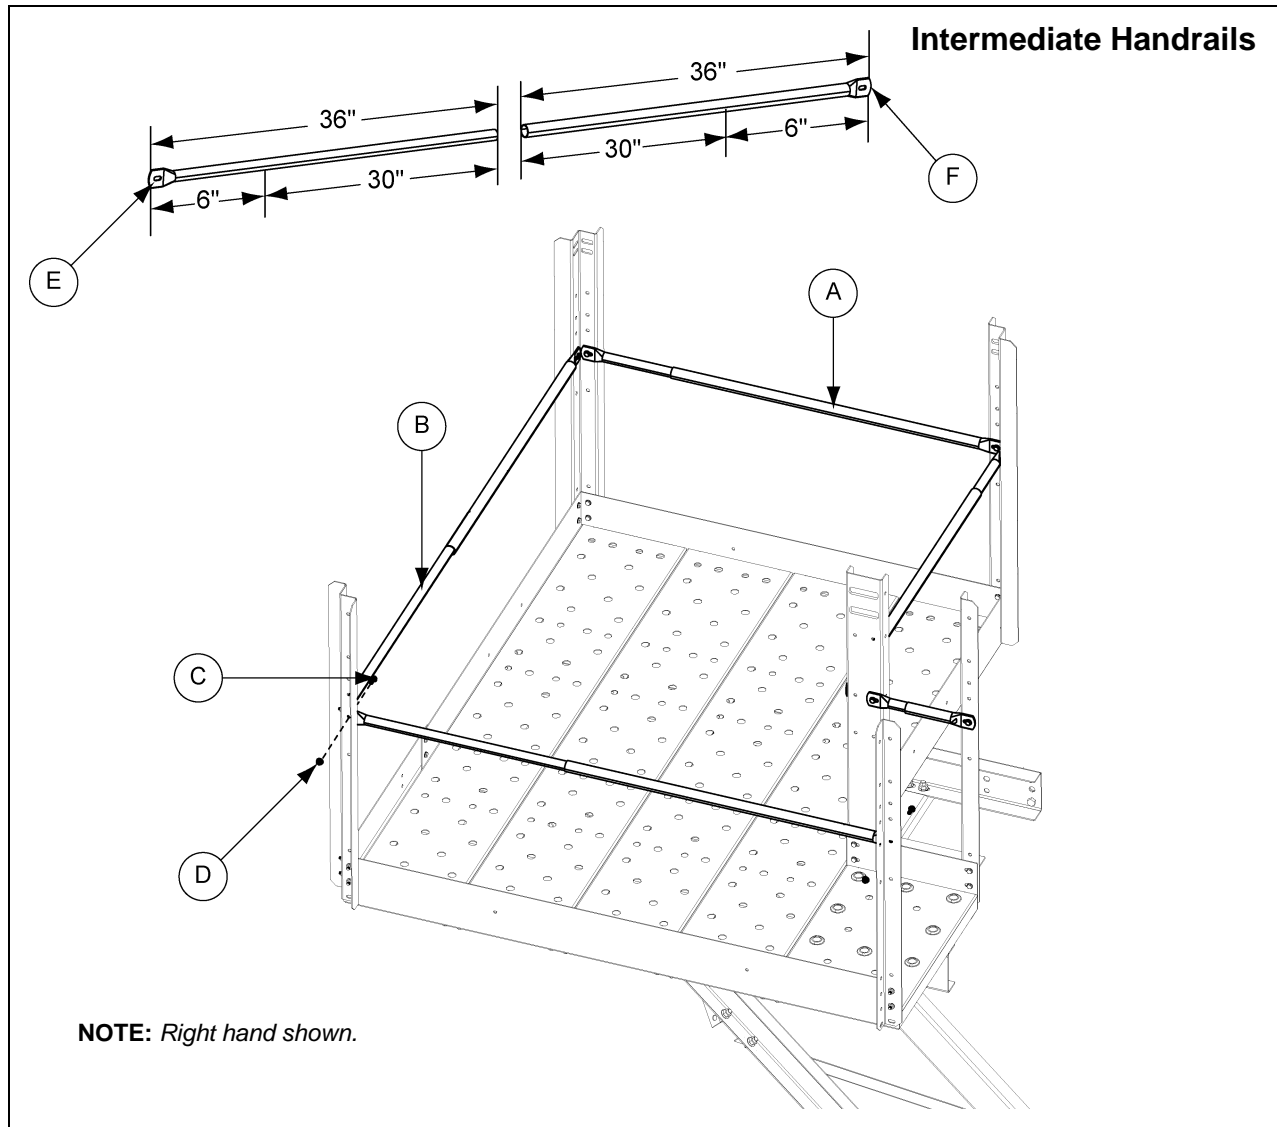

Figure 12I
1. Insert small intermediate handrail (LDR-4087) (B) into the large intermediate handrails (LDR-4088) (A) to create telescoping rails. Cut 30" off one small intermediate and one large intermediate rail to fit at entrance. Adjust all rails to the proper length and install to the posts using the 5th hole down from the top. Fasten in place using two (2) 5/16" x 3/4" flange bolts (S-6606) (C) and nuts (S-3611) (D) per each telescoping tube. (See Figure 12I.)